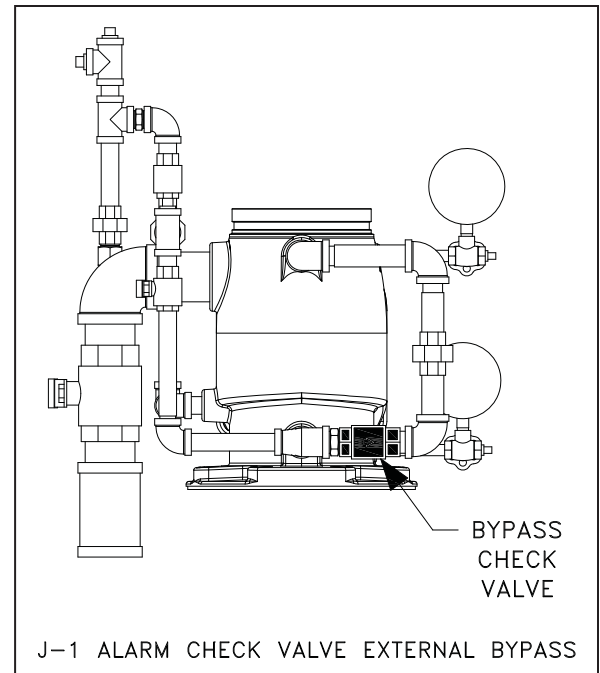

Figure 57
2. Clean or replace check valve on external by-pass trim (Figure 57). If both the supply gauge and system gauge are fluctuating up and down at the same time, it is likely that the bypass check valve is leaking. (Refer to Figures 58-59.) If there are unusual fluctuations on both the supply side and system gauges, be sure to check the bypass check valve.